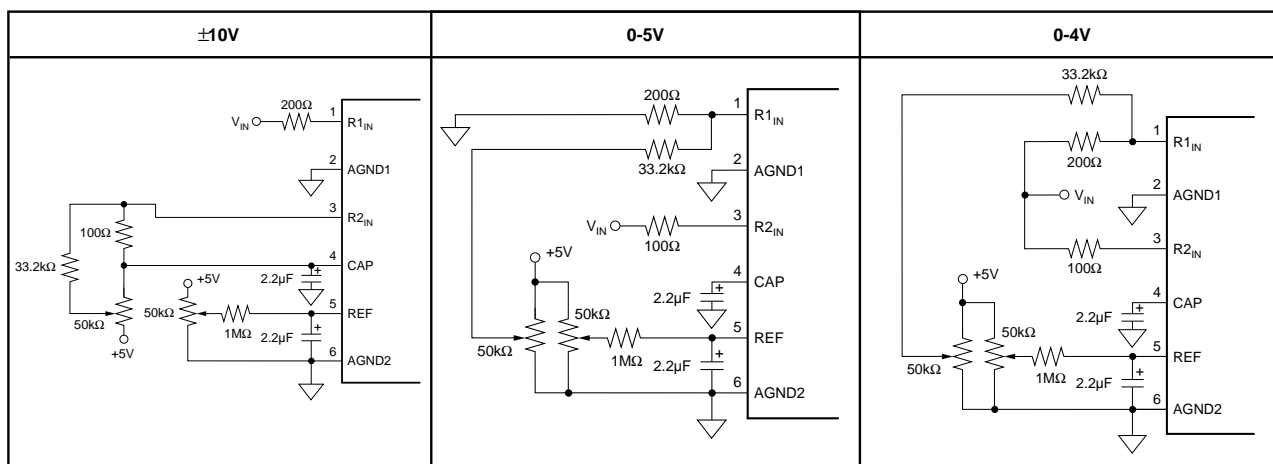
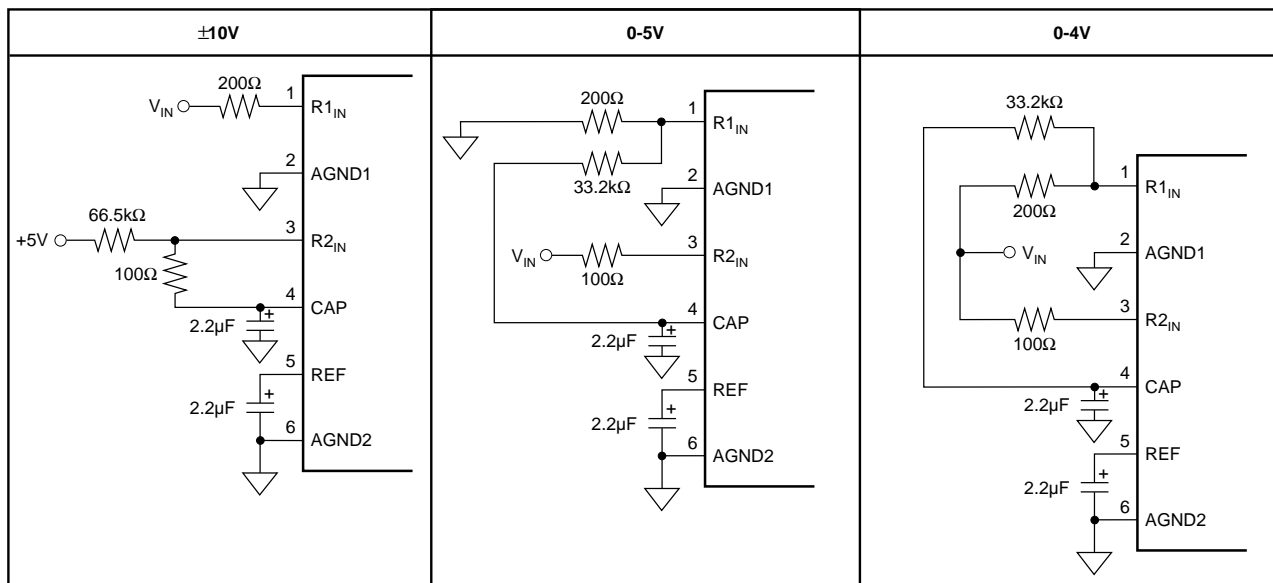
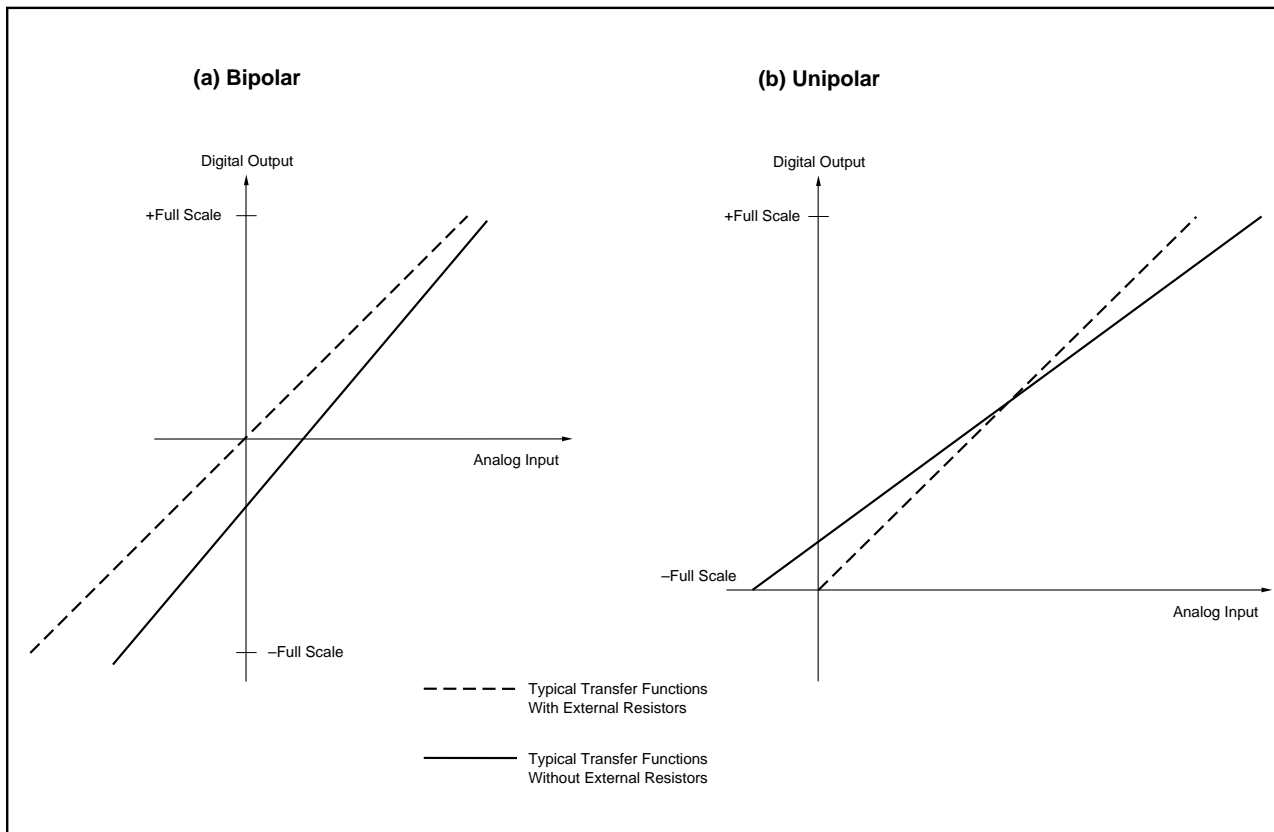

FIGURE 7a. Circuit Diagrams (With Hardware Trim).
FIGURE 7b. Circuit Diagrams (Without Hardware Trim).
FIGURE 8. Typical Transfer Functions With and Without External Resistors.
The ADS7806 offers three input ranges: standard  $\pm 10V$  and 0-5V, and a 0-4V range for complete, single supply systems. Figures 7a and 7b show the necessary circuit connections for implementing each input range and optional offset and gain adjust circuitry. Offset and full scale error(1) specifications are tested and guaranteed with the fixed resistors shown in Figure 7b. Adjustments for offset and gain are described in the **Calibration** section of this data sheet.
used for each input range (see Figure 8). The input resistor divider network provides inherent overvoltage protection guaranteed to at least  $\pm 25V$ .
To calibrate the offset and gain of the ADS7806 in hardware, install the resistors shown in Figure 7a. Table VII lists the hardware trim ranges relative to the input for each input range.
TABLE VII. Offset and Gain Adjust Ranges for Hardware Calibration (see Figure 7a).
fications for offset and gain, the resistors shown in Figure 7b are necessary. See the **No Calibration** section for more details on the external resistors. Refer to Table VIII for the range of offset and gain errors with and without the external resistors.
See Figure 7b for circuit connections. Note that the actual voltage dropped across the external resistors is at least two orders of magnitude lower than the voltage dropped across the internal resistor divider network. This should be consid-
The external resistors shown in Figure 7b may not be necessary in some applications. These resistors provide compensation for an internal adjustment of the offset and gain which allows calibration with a single supply. Not using the external resistors will result in offset and gain errors in addition to those listed in the electrical specifications section. Offset refers to the equivalent voltage of the digital output when converting with the input grounded. A positive gain error occurs when the equivalent output voltage of the digital output is larger than the analog input. Refer to Table VIII for nominal ranges of gain and offset errors with and without the external resistors. Refer to Figure 8 for typical shifts in the transfer functions which occur when the external resistors are removed.